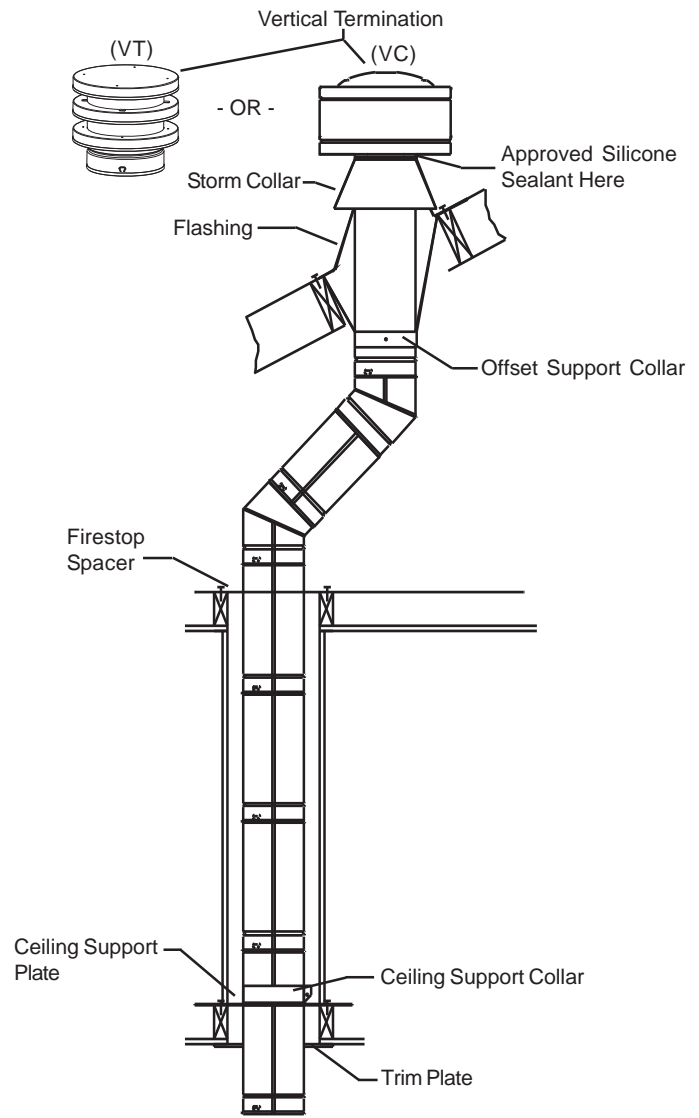
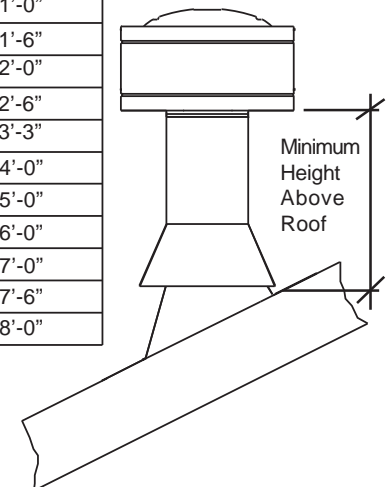

FIG. 13
FIG. 14
7) If a Wall Thimble is used, push the pipe (which is connected to the appliance) carefully through the Wall Thimble until the DIRECT-TEMP pipe becomes fully engaged with the Horizontal Termination. If no thimble is used, place the Trim Plate (TP) on the DIRECT-TEMP pipe. Carefully push the DIRECT-TEMP pipe through the wall until fully engaged with the Horizontal Termination. Secure the Trim Plate to the wall.
**VERTICAL INSTALLATION:** (See FIG. 13)
**NOTE:** Frame openings to the dimensions specified in the Framing Table for the Cathedral Ceiling Support Box (CCS), the Ceiling Support (CS) and wherever the Firestop Spacer (FS) is being used.
11) Add lengths of pipe and firestop as necessary until assembly extends to a point above the roof which complies with local code requirements for minimum termination height and with the appliance manufacturer's installation instructions. See FIG. 14.